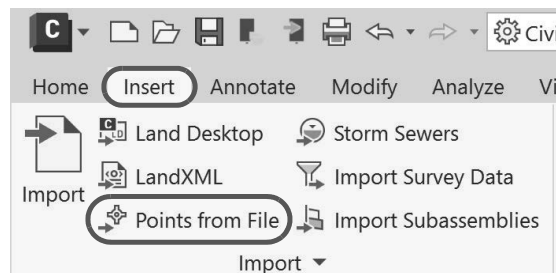

Figure 2–39
2. On the *Insert* tab, *Import* panel, select  (Points from File), as shown in Figure 2–39.
3. In the *Import Points* dialog box, do the following, as shown in Figure 2–40: